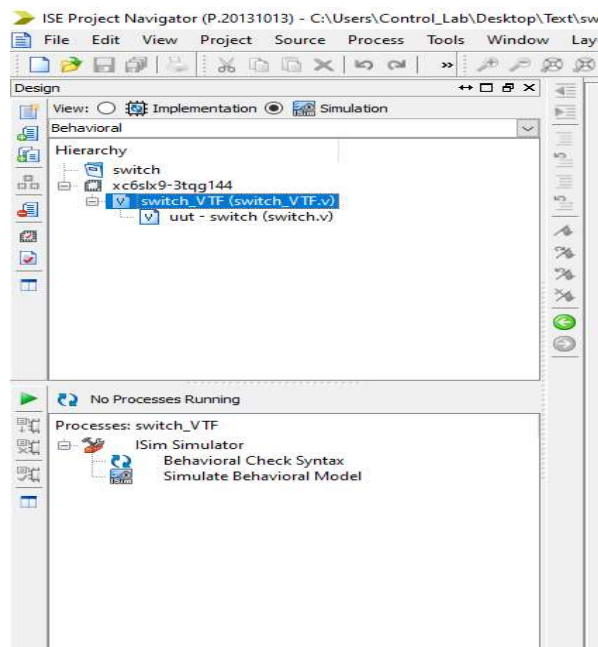

Fig 1.19: Process Window
21. After editing the test bench, click **Behavioral Check Syntax** in the **Processes** window to check for syntax errors in the test bench. If there is no error double click **Simulate Behavioral Model** (Fig 1.19)